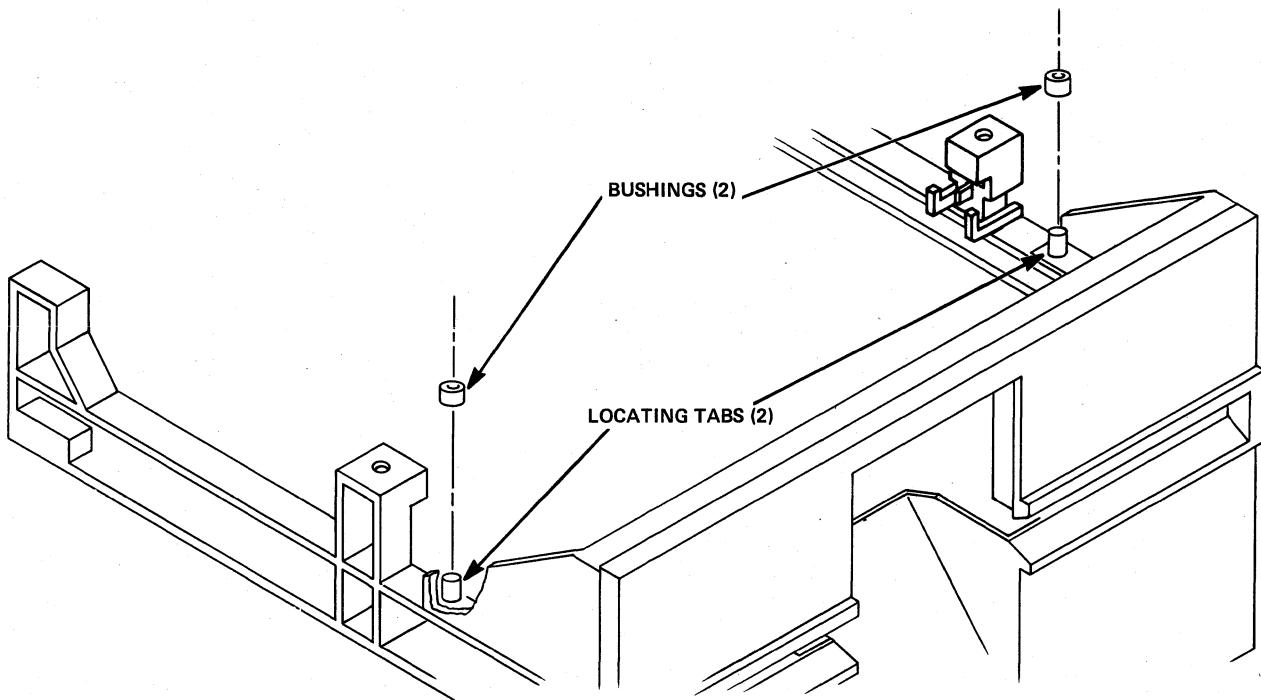

Figure 5-11
- 5.7.2** Using a pair of needle nose pliers, remove the two (2) bushings located on the right-hand and the left-hand top sides of the front panel by pulling up on them while using a twisting motion (see Figure 5-11).
5.7.7 Taking the new front panel, place the front door in its tracks on the front panel, and place the new front panel on the rail pins (see Figure 5-11).
5.7.11 Install two (2) new bushings on the right-hand and the left-hand sides of the front panel (see Figure 5-11).